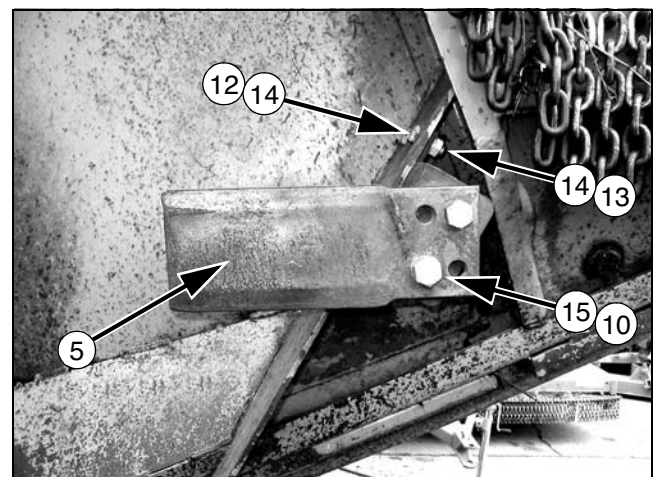

Figure 43. Stationary Blade Installed - Right Wing
1. Attach mounting bracket (6) to the front side of the front baffle and secure with cap screws (12), hardened flat washers (14) and lock nuts (13). Do not tighten hardware.
2. Attach stationary blade (5) to mounting bracket (6) using two cap screws (10), four hardened flat washers 915) and lock nuts (11). Blade should be angled by using the first hole on the left side and the second hole on the right side. Refer to Figure 43.
3. Rotate crossbar and blades so stationary blade fits between the two crossbar blades. Adjust mounting bracket (6) so the stationary blade (5) is 1" below flat blade (4), Tighten all hardware. See Figure 43.